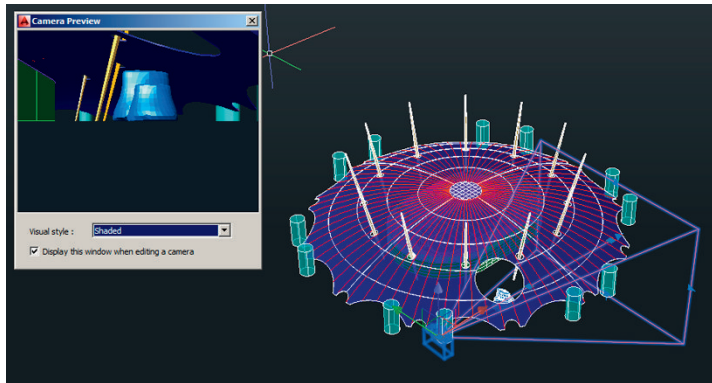

FIGURE 16.17 Camera Preview window showing the new position of the camera “on the ground”
6. Drag the Camera & Target Location grip forward until the camera is under the outer edge of the dome. Figure 16.17 shows the Camera Preview window.